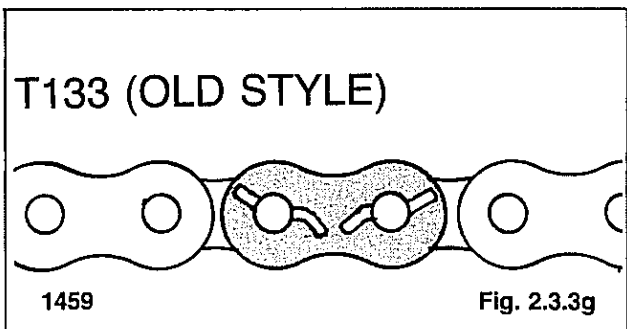

Fig. 2.3.3g
12. Straighten and remove the chain connection link cotter pin (fig. 2.3.3g, 2.3.3h) and remove the connection link.